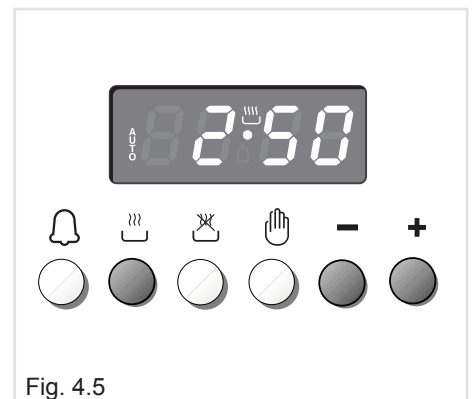

Fig. 4.5
1. Set the length of the cooking time by pushing the  button and the $+$ button to advance, or $-$ to go back if you have passed the desired time (fig. 4.5).